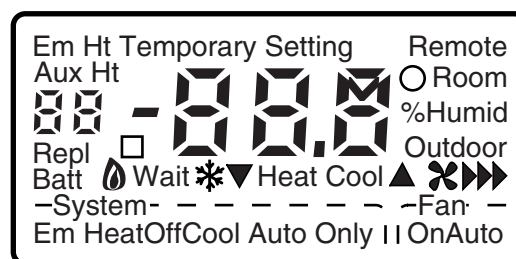

Fig. 13. LCD display of all segments.
- To enter the Installer Setup, press and hold the Information **i** key with the increase **▲** and decrease **▼** keys until the first number is displayed. All display segments appear for approximately three seconds before the number is displayed. See Fig. 13 and 14.